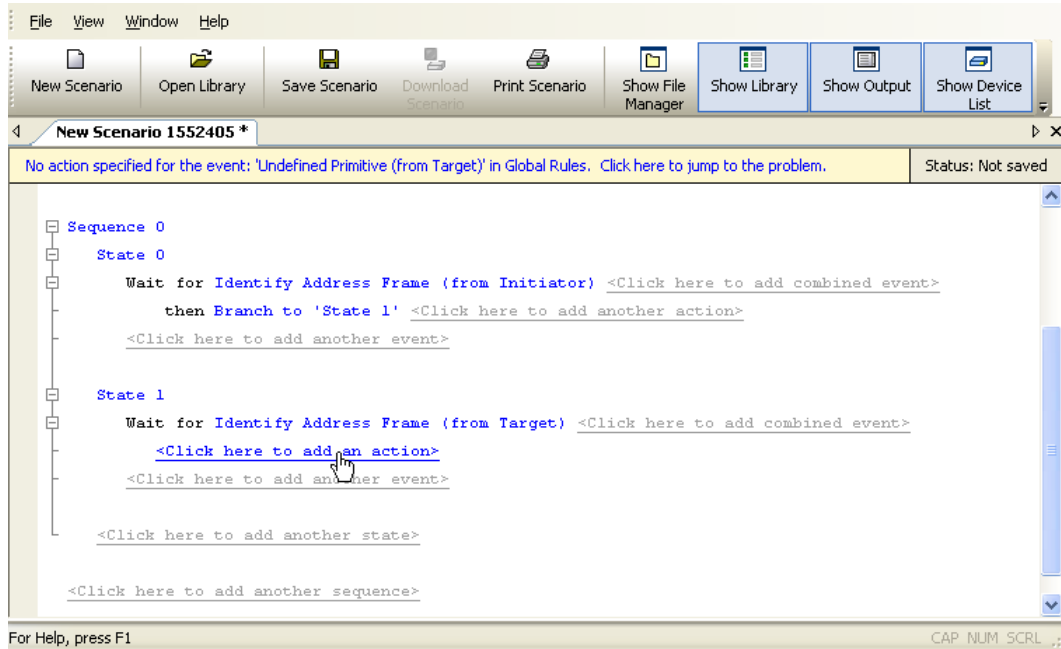

Figure 5.42 Example 7: Adding an Action to the Second State
- Step 13** Click on the prompt to **add an action** for State 1 (Figure 5.42).